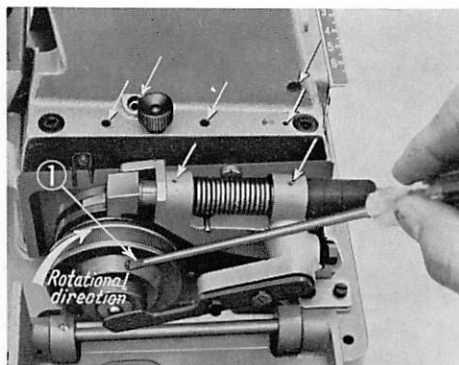
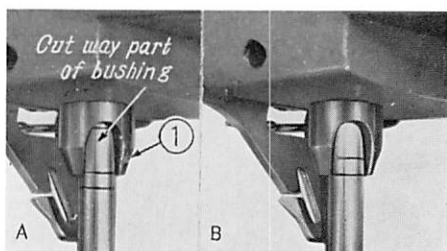
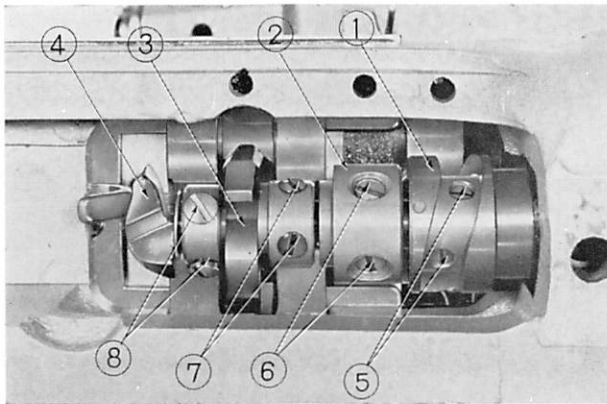

Fig. 2
Fig. 14
Fig. 15
* The rotational direction of the machine is shown by the arrow in Fig. 2.
Spindle Oil. Remove the right side arm cover, remove the screw ①, Fig. 2, of the needle driving pulley, check the grease level and replenish it, if required.
Step on the pedal fully to release the stop motion trip lever and in that position rotate the motor pulley toward the operating direction with your right hand (Fig. 2) and when the needle bar has reached the lowest position, the upper line of the each pair of timing lines (Fig. 14 A), depending upon the length of needle used, should be even with the
As per Chapter 13, the upper timing line of the pair of timing lines became even with the lower edge of the needle bar lower bushing at the lowest point of the needle bar, so rotate the pulley toward the operating direction and adjust so that the lower timing line comes even with the needle bar lower bushing. At this position, (Fig. 14 B) match the point of the looper (Fig. 15 ④) with the center of the needle and make the clearance between the needle and the point at 0.05~0.1 m/m and then tighten the looper set screw (Fig. 15 ⑧) securely.
14. TO PRODUCE OPTIMAL STITCHING CONDITION (Fig. 15, 16)
(i) *Adjusting the loop positioning finger lever* (Fig. 15, 16)
(ii) *Timing the loop positioning finger cam (front)* (Fig. 15)